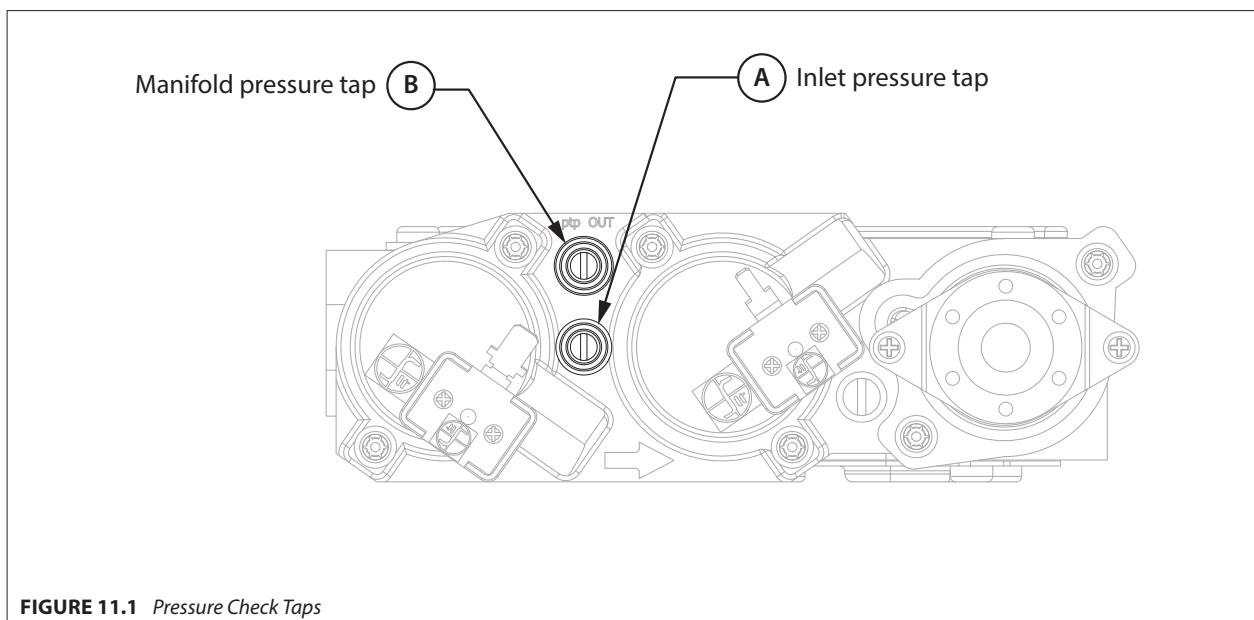

FIGURE 11.1 Pressure Check Taps
1. Loosen the inlet (IN) pressure tap by turning screw counter-clockwise. See (A) in Figure 11.1.
5. Disconnect hose and tighten the inlet (IN) pressure tap by turning screw clockwise. Screw should be snug. Do not over tighten.
6. Relight pilot and burner. Then reattach manometer to the inlet pressure tap (A) to verify the tap is completely sealed. Manometer should read no pressure.
2. Loosen manifold (OUT) pressure tap by turning screw counter-clockwise. See (B) in Figure 11.1.
7. Attach the manometer to the manifold pressure tap (B) to verify it is completely sealed. The manometer should read no pressure when pilot and burner are on.